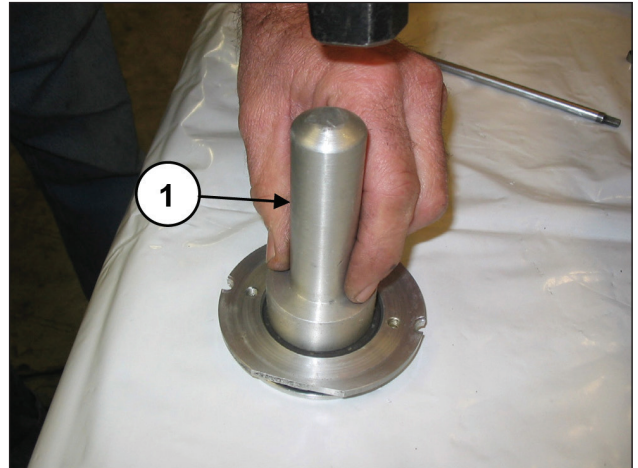

Fig. 139
Mount the oil seal in the oil seal cover (pos. ①, Fig. 139) using a buffer code 27910900.